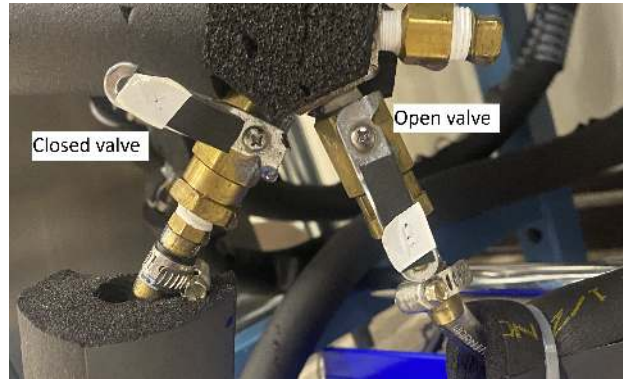

Figure 14: Chiller Valves with one valve closed and one open.
- Check to make sure valves are open to cool the correct enclosure(s). A valve on the chiller line is closed if it is perpendicular to the chiller line and it is open if it is parallel to the chiller line. An example of this can be seen in Fig 14.